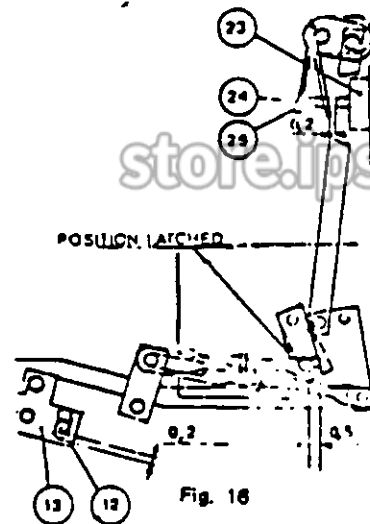

Fig. 16
b) Inspection. With the breaker in the open position, press the trip button (23) Fig. 16 and check travel of release bar. Distance between maximum position of reset and latch should be 0.5 mm (0.020